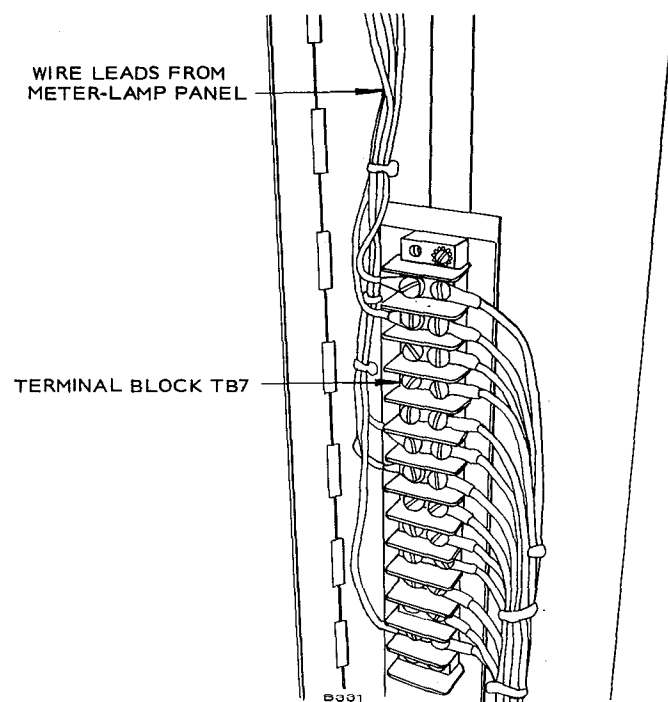

FIGURE 2. METER-LAMP PANEL TERMINAL BLOCK TB7
5. Disconnect the meter-lamp panel wire leads from TB7. See Figure 2.